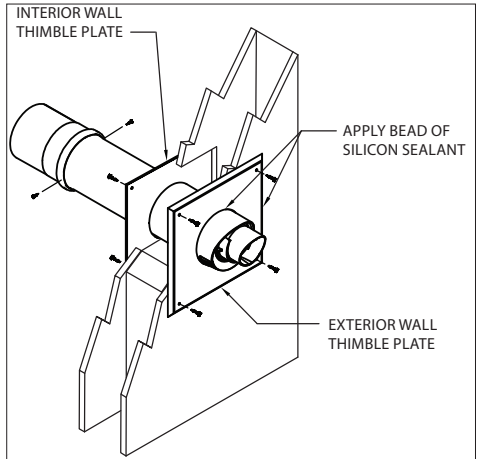

Figure 23
Horizontal Concentric Pipe (Fig.23)
3. Center the Interior Wall Thimble Plate to the wall penetration and secure with the four provided screws. **(Fig.23)**
5. Center the Exterior Wall Plate to the wall penetration, use water resistant sealant or caulking on the exterior plate to prevent rain intrusion. Secure the Exterior Wall Plate in place using the provided screws. **(Fig.23)**